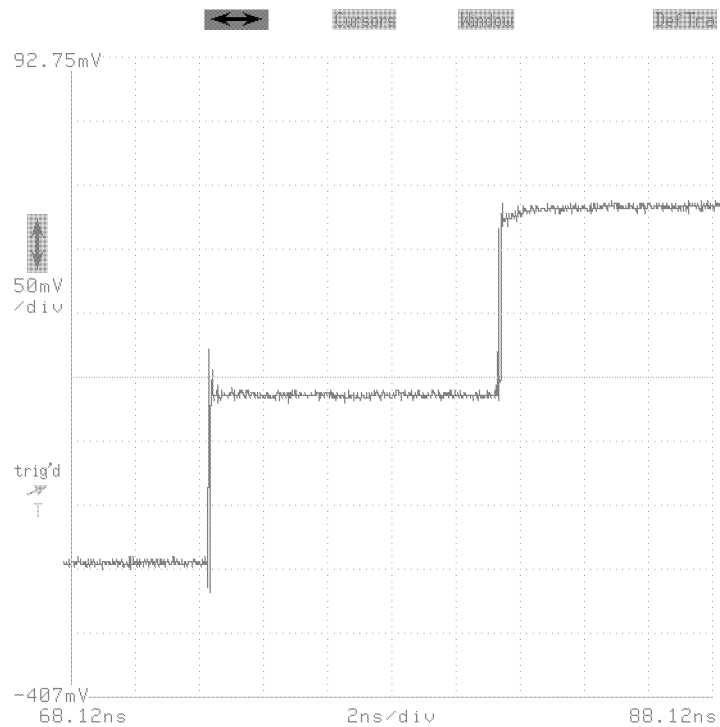

Figure 12: TDR Step and Reflection
- Step 7:** Adjust the display sizes and positions to show a trace similar to that shown in Figure 12. The vertical (\updownarrow) and horizontal (\leftrightarrow) icons will let you make fine adjustments.